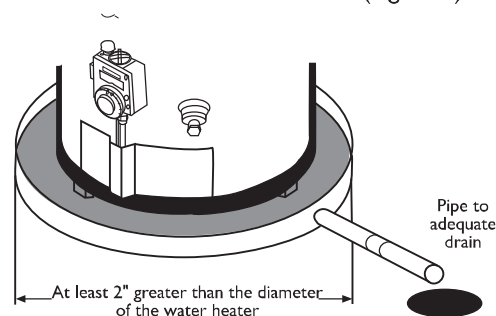

Figure 1
- A suitable drain pan must be installed under the heater. Such pans must have a minimum length and width of at least two inches greater than the diameter of the heater, and must be piped to an adequate drain. The pan must not restrict combustion air flow. (Figure 1).